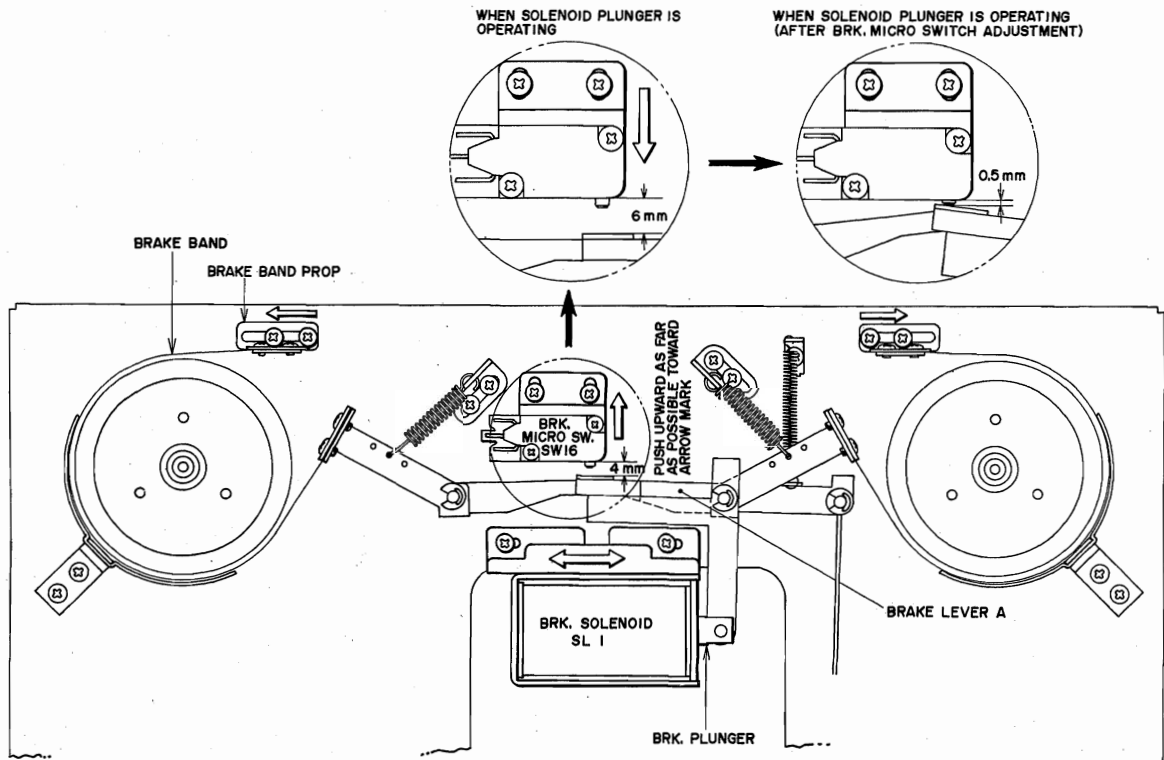

Fig. 9
### 2. BRAKE SOLENOID POSITION ADJUSTMENT (Refer to Fig. 9)
1) As shown in Fig. 9, push the Brake Micro as far as it will go toward the mechanical chassis and fix at that position.